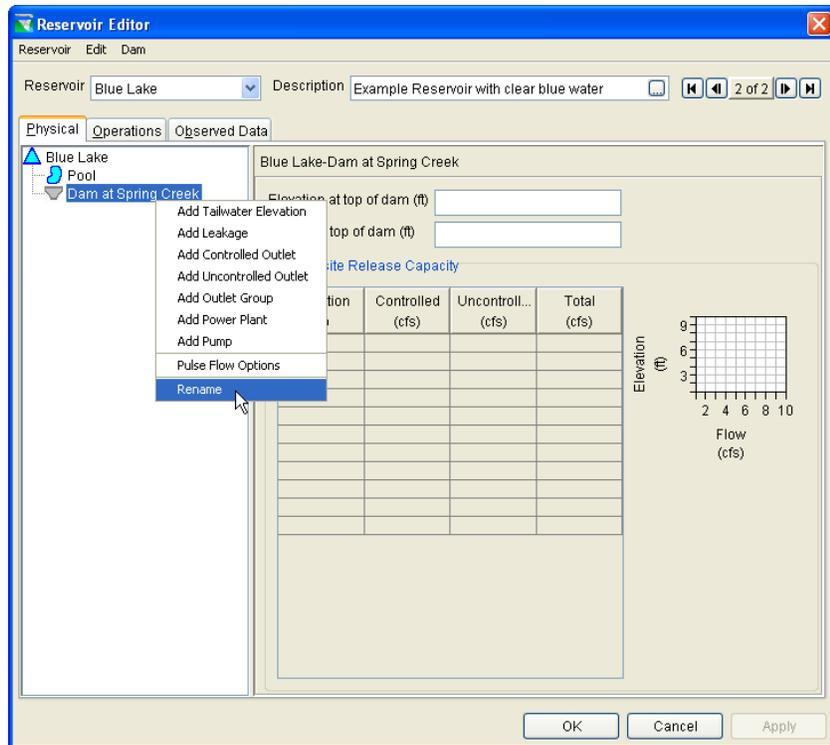

Figure 20. Reservoir Editor, Rename Dam
- Enter Dam Properties.** Click on **Dam** in the reservoir tree. The data area to the right of the reservoir tree will change to allow you to enter the data needed to define the dam [Sections 10.5 and 10.6]. Before proceeding, take a look at the name of the dam. The name is probably something like “Dam at My Main River.” This is the default name the program gives to the dam. It identifies the dam based on the name of the underlying stream upon which the dam was placed. This enables the program to uniquely identify more than one dam within a reservoir. It is a rare case when a reservoir has more than one dam, so feel free to rename the dam by right-clicking on the dam name and selecting **Rename** (as shown in Figure 20). One suggestion is to name it *Dam* by removing the stream name. Another possibility is to name the dam by its actual name (many reservoirs have a name for the pool and a different name for the dam; ResSim provides the ability to name each part individually).
- **Add Outlets.** Physical **Outlets** can be added to the Dam by right-clicking on the **Dam**. Figure 20 illustrates the dam’s shortcut menu. Select **Controlled Outlet** to add a gate or other control structure to the dam [Sections 10.8 and 10.16]. You can rename the outlet by right-clicking on the outlet and selecting **Rename**.